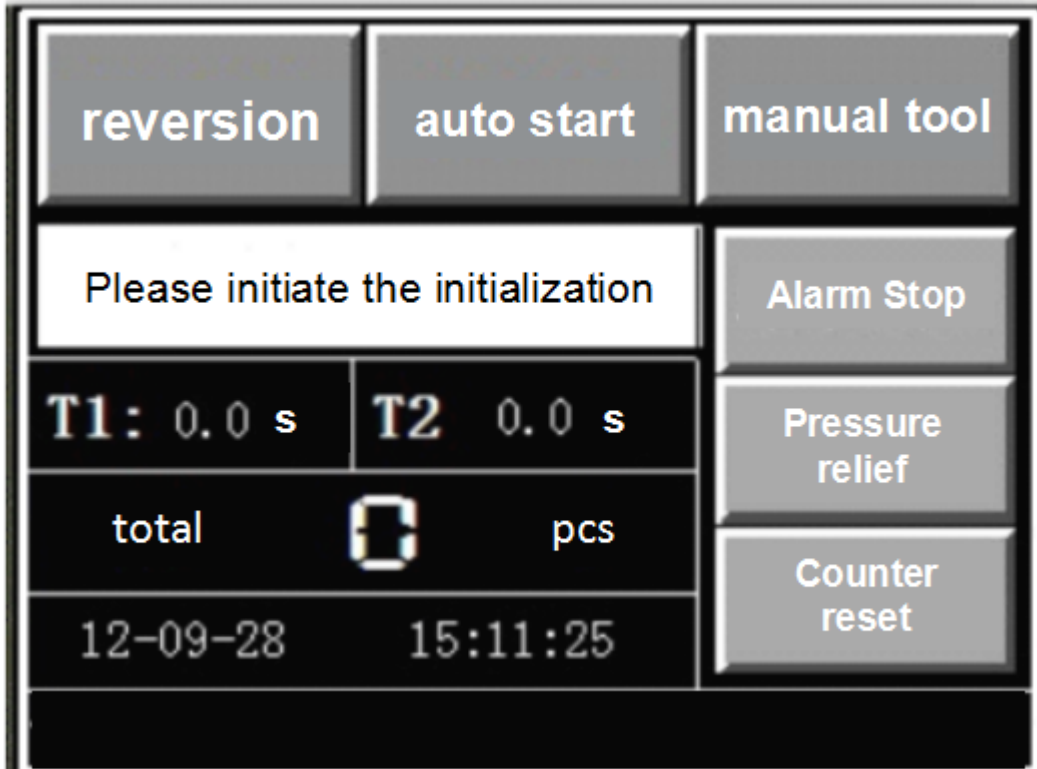
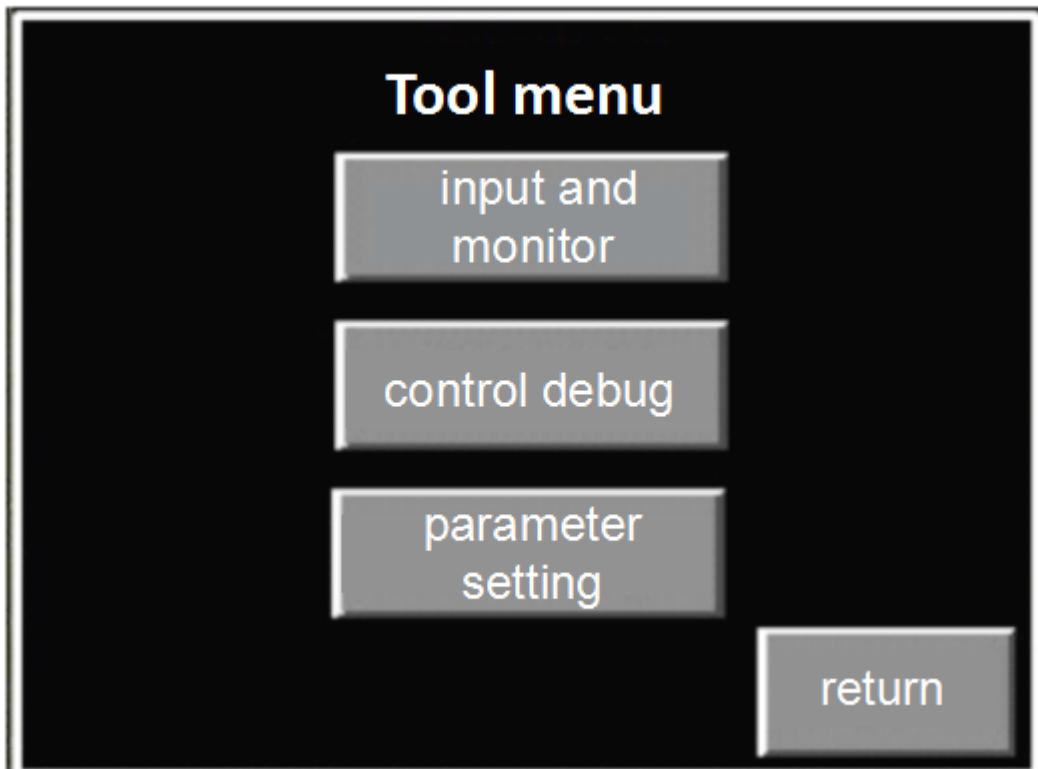
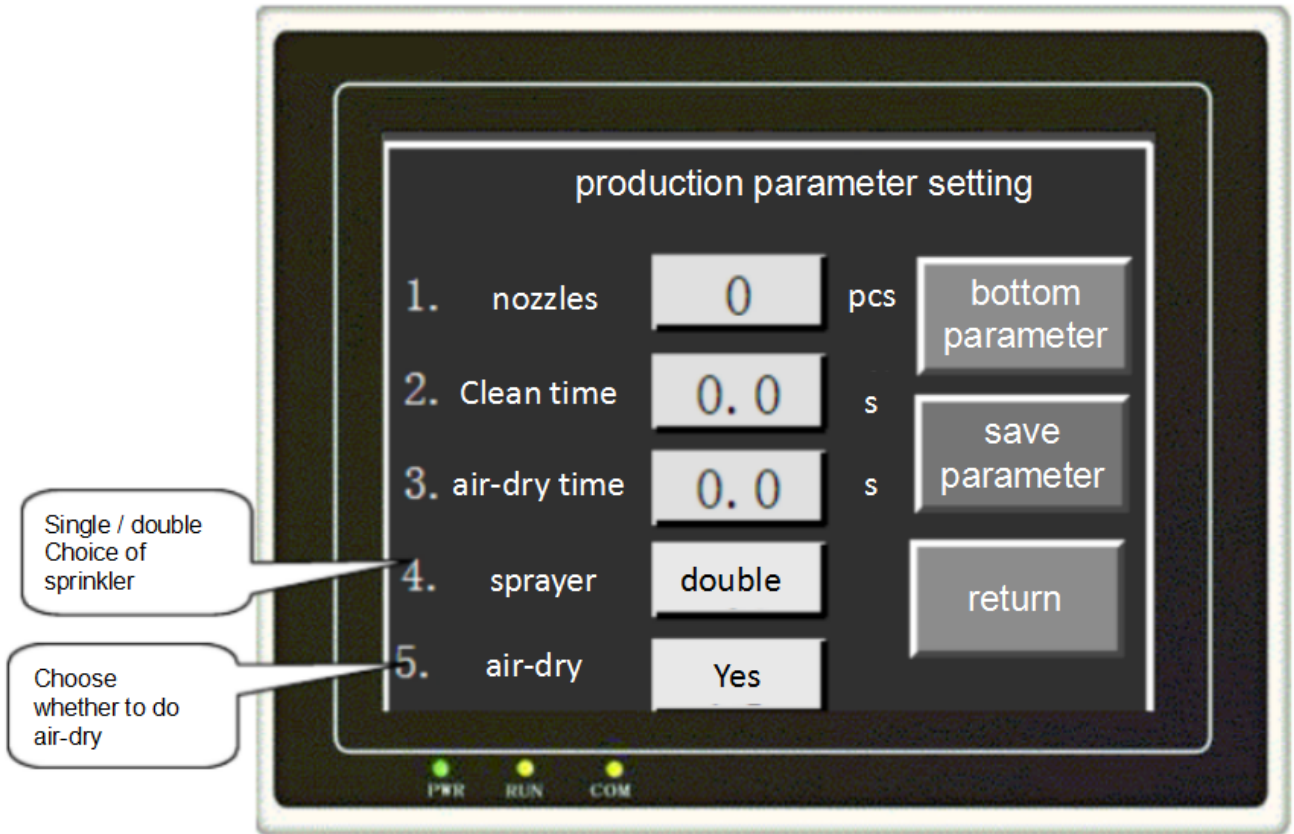
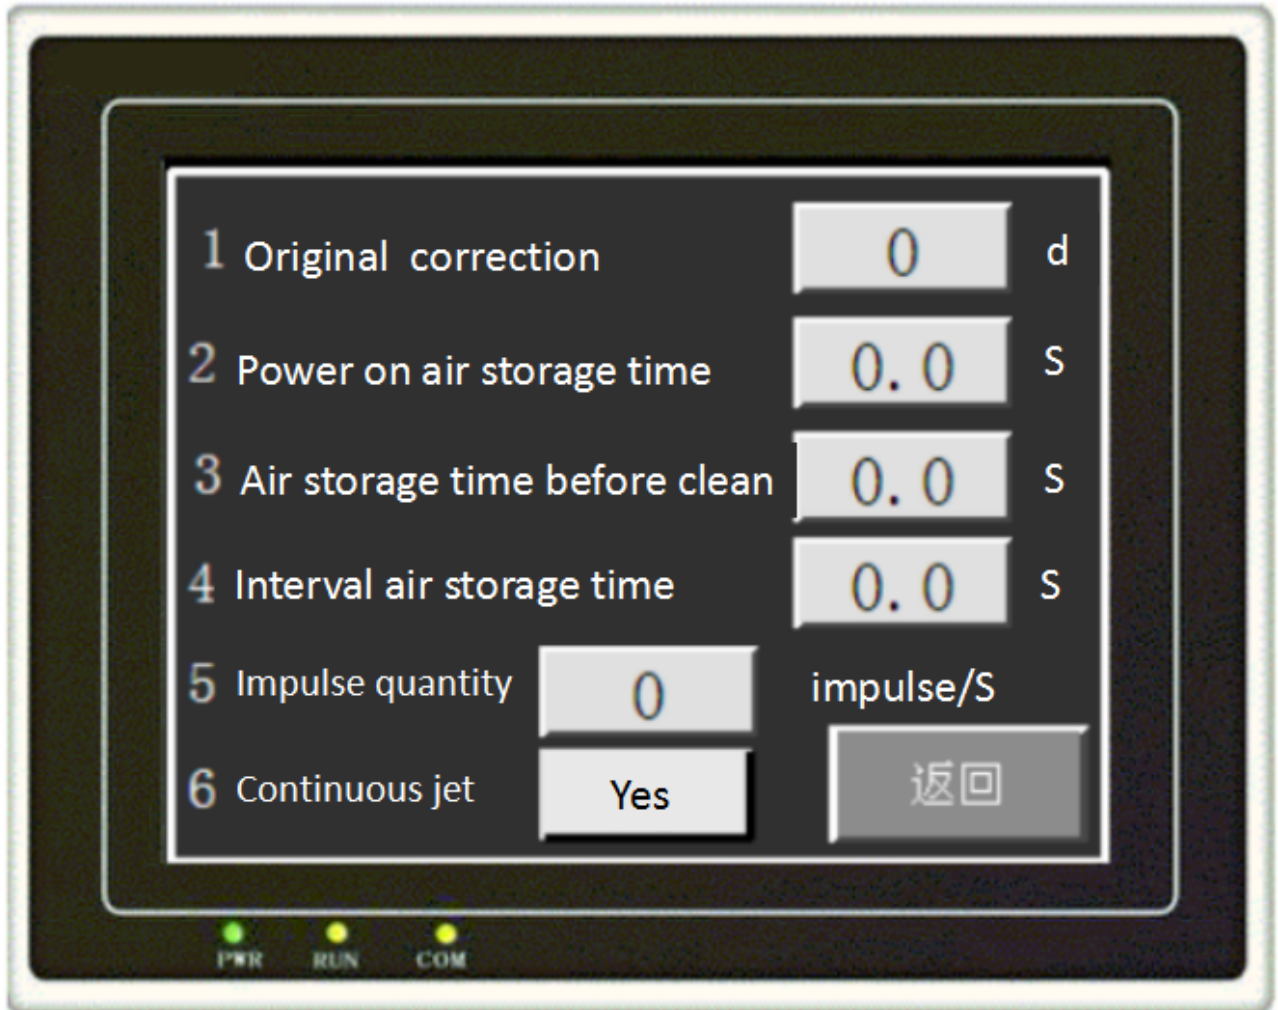

Figure 4.1
Figure 4.2
Figure 4.5
Figure 4.6
1. click the [manual tool] as shown in Figure 4.1, as shown in Figure 4.2
Input signal monitor(click the interface of Figure 4.2 [input and monitor].)
Manual control interface(click the interface of Figure 4.2 [control debug].)
2. click on Figure 4.2 [parameter settings], appear as shown in Figure 4.5, according to actual needs, set up relevant parameters, click figure 4.5 [bottom parameter], the password is 4 "8888", and then appear as shown in Figure 4.6.